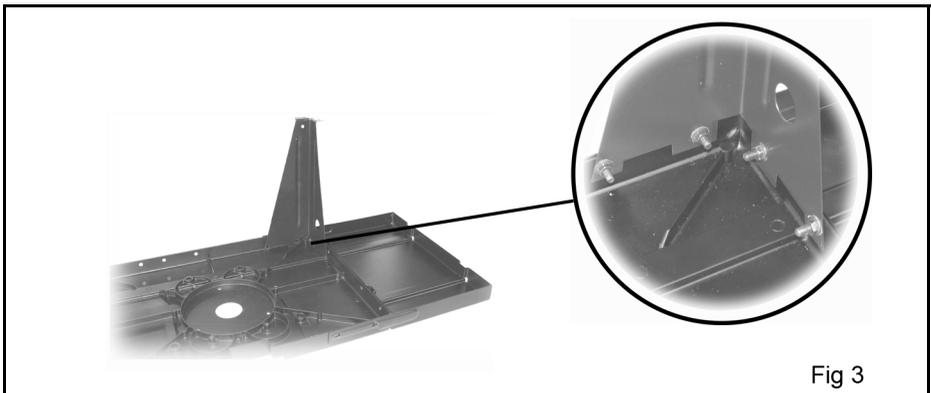

Fig 3
3. Place a table leg (Item 03) as shown in Fig. 3, loosely fix in position, using four screws and lock nuts; do not fully tighten yet.